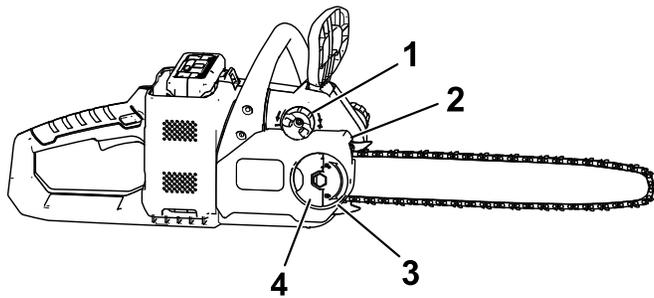

Figure 29
2. Unfold the wing-nut tab and loosen, but do not remove the wing nut on the cover (Figure 29).
5. Tighten the wing nut until it is snug and fold the wing-nut tab (Figure 29).
2. Unfold the wing-nut tab and remove the wing nut that secures the cover (Figure 29).
3. Loosen the chain by turning the chain-tightening screw counterclockwise (Figure 29).